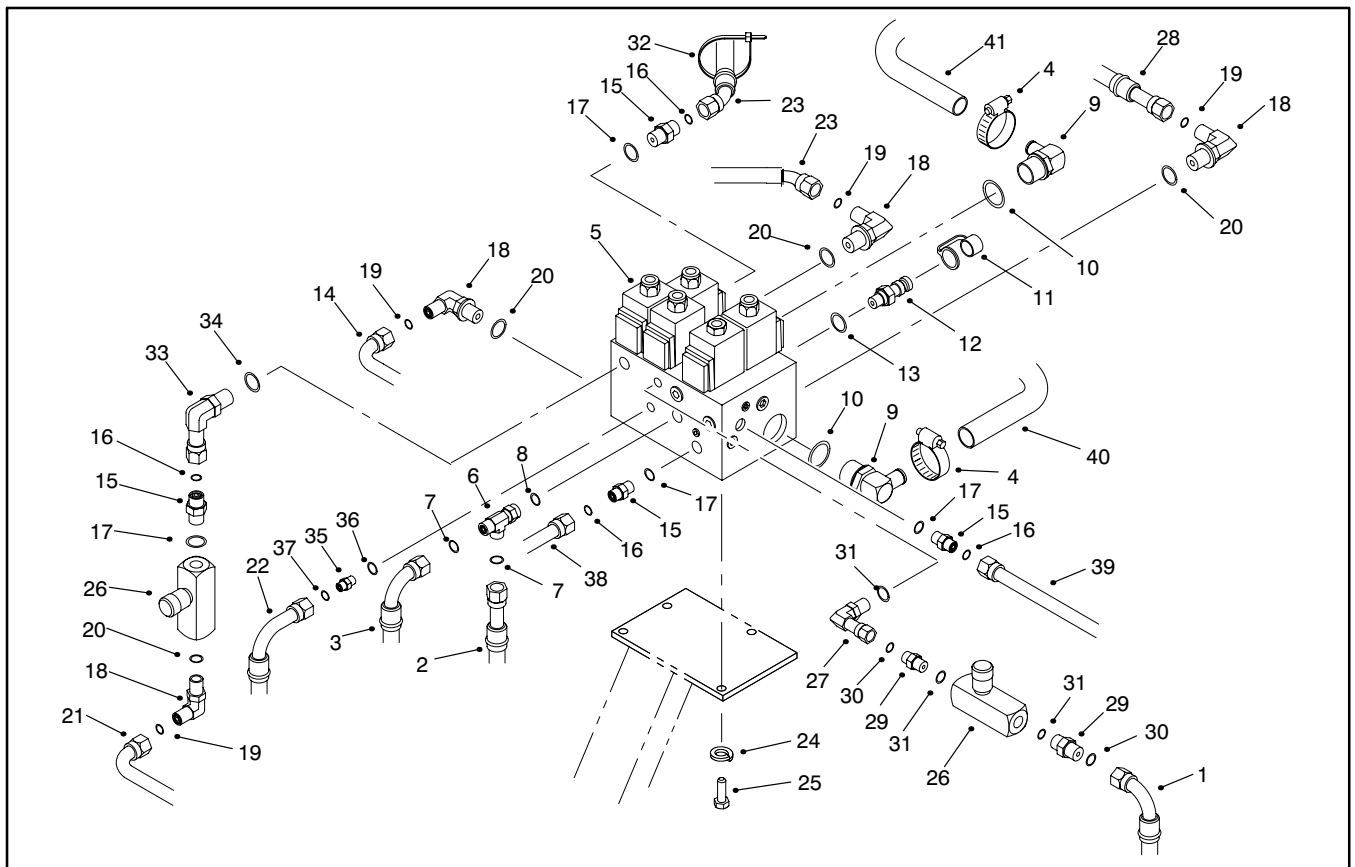

Figure 90
3. Remove hydraulic manifold from the frame (Fig. 90).